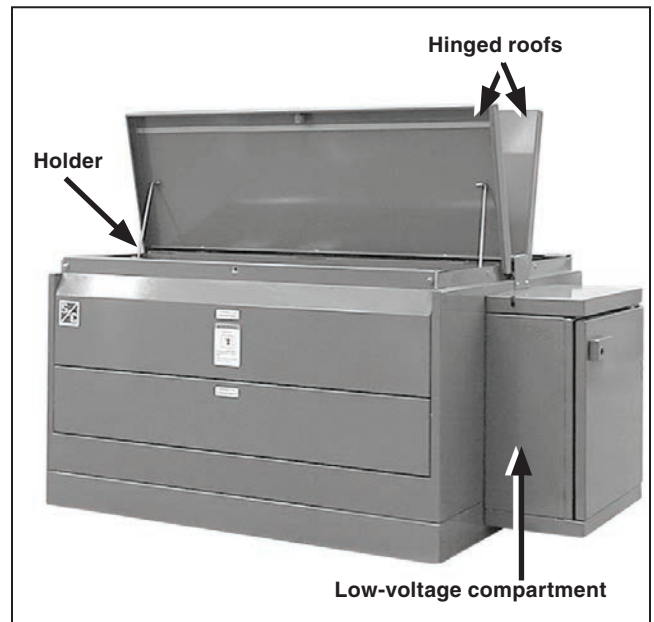

Figure 4. Pad-mounted style gear—roofs open.
- STEP 3.** Lift the hinged roofs upward and secure them with the holders. See Figure 4.